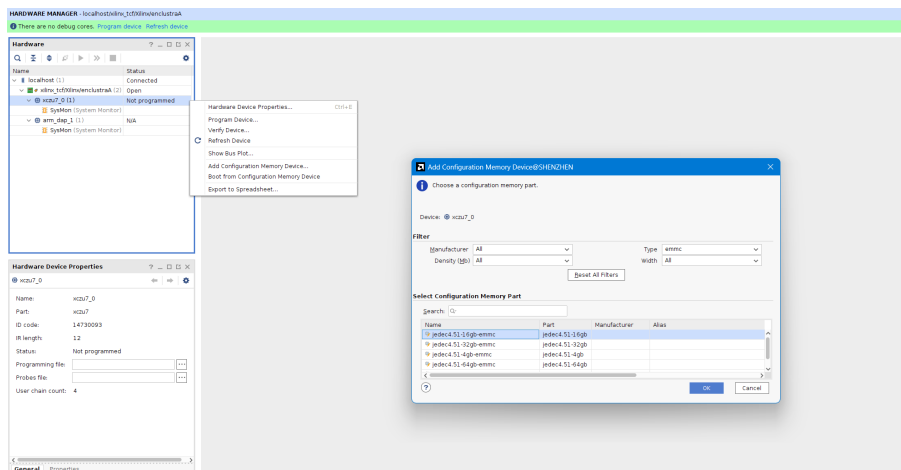

Figure 8: Vivado Configuration Memory (eMMC)
3. Select **Open target** > **Auto Connect**. The hardware manager should be able to connect to the device as shown in Figure 8.
6. Select **jedec4.51-16gb-emmc** from the listed options. See Figure 8 for reference.